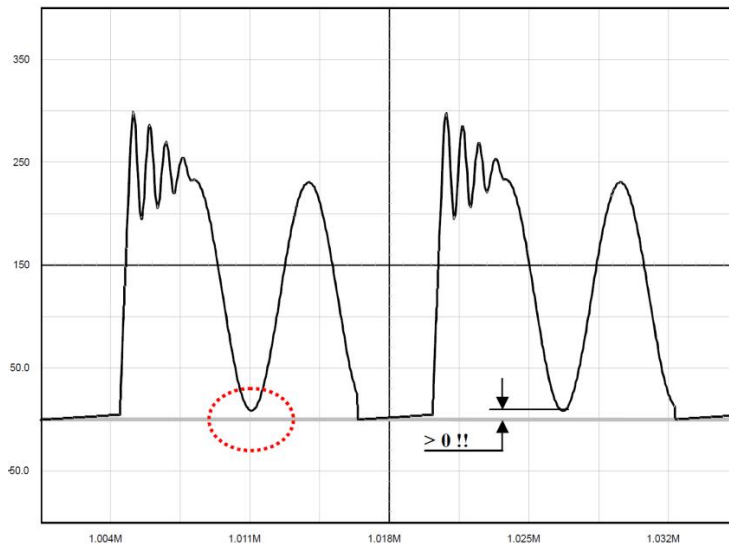

Figure 51. The Drain-Source Wave Shall Always be Positive
1. The lateral MOSFET body-diode shall never be forward biased, either during start-up (because of a large leakage inductance) or in normal operation, depicted by Figure 51. This condition sets the
and defines the amount of ripple we want in CCM, depicted by Figure 51.
Figure 53a: the simple capacitor limits the voltage according to the lateral MOSFET body-diode shall never be forward biased, either during start-up (because of a large leakage inductance) or in normal operation as shown by Figure 51. This condition sets the maximum voltage that can be reflected during t_f . As a result, the flyback voltage which is reflected on the drain at the switch opening cannot be larger than the input voltage. When selecting components, you must adopt a turn ratio which adheres to the following Equation 6. This option is only valid for low power applications, e.g. below 5 W, otherwise chances exist to destroy the MOSFET. After evaluating the leakage inductance, you can compute C with (Equation 7). Typical values are between 100 pF and up to 470 pF. Large capacitors increase capacitive losses...